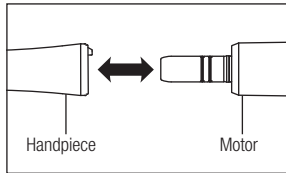

Fig. 1
- 1) Insert the handpiece direct into the motor (Fig. 1). Turn the handpiece until it clicks and locks into position.